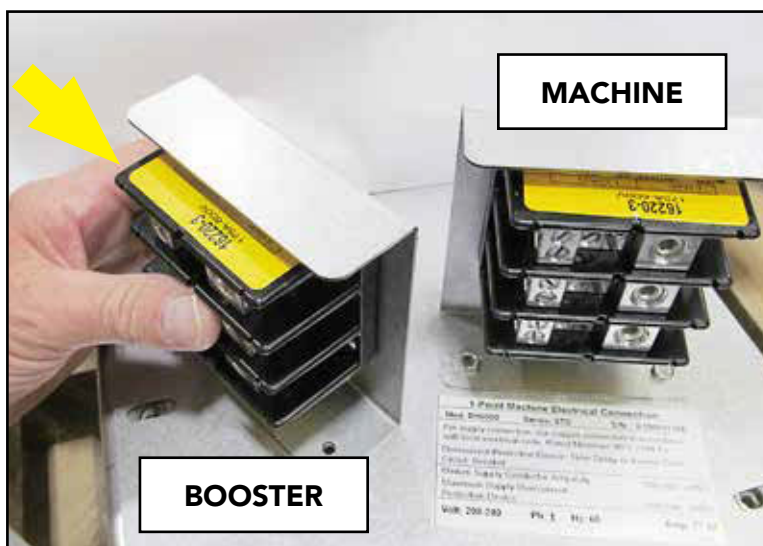

Fig. 4
- Position the Booster terminal block and make sure the booster wires disconnected in step 4 will reach to the block. (Fig. 4).